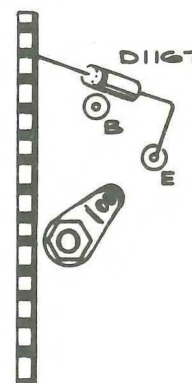

FIG. 2
- 3) Remove D1167 from the Low Voltage Regulator chassis located just below the circuit board. See Fig. 2 for location.